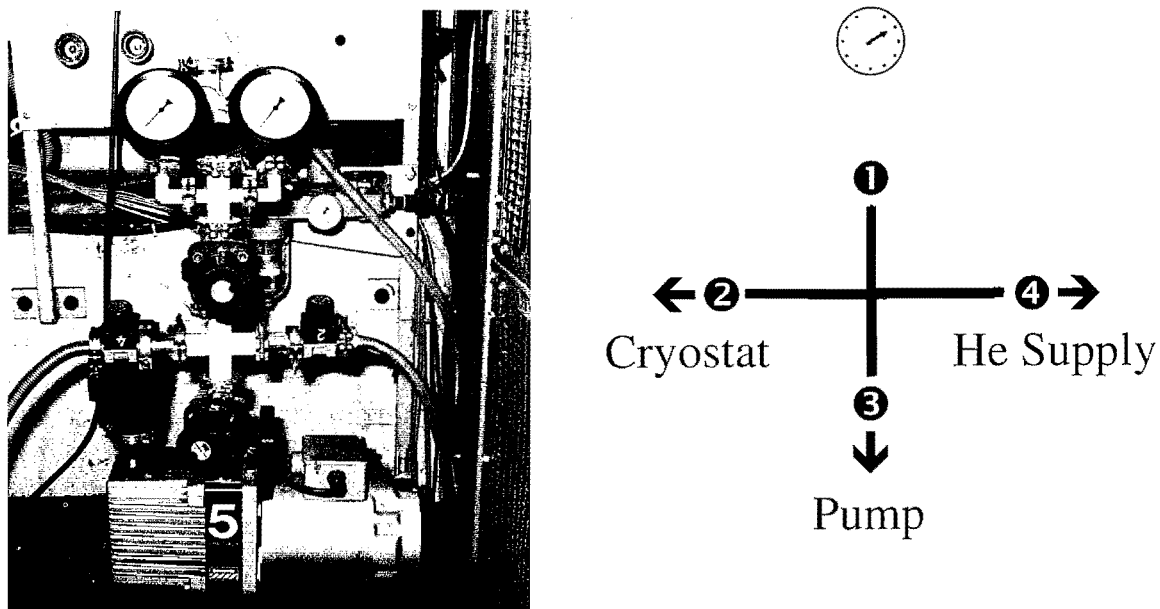

Figure 2.5.3: A photograph and sketch showing the pumping control valves. 95RC3071
5. Open valve No's 1, 2 and 4 on the cryostat pump (see *Figure 2.5.3*) The vacuum gauges should show the pressure rising slowly, meanwhile the He gas pressure gauge has fallen to 0.